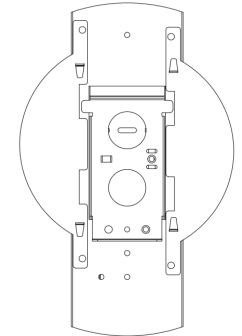

Figure 3
- If desired, attach supplied split junction box cover plates to the back of the fixture body (Figure 3).